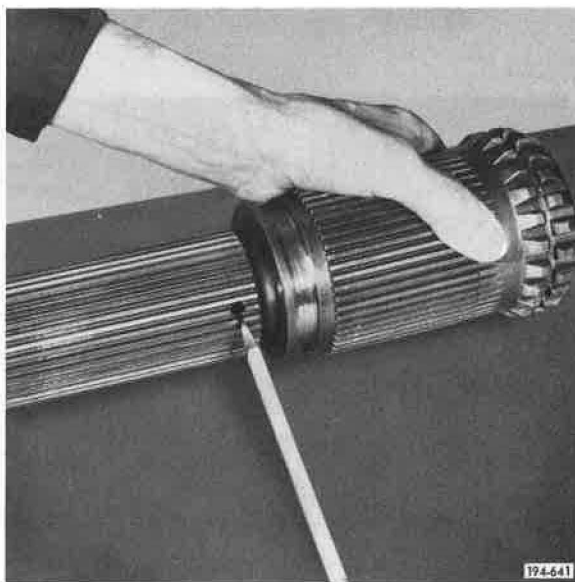

Figure 347. Installing Sliding Clutch
6. Install second/third speed sliding clutch onto main box mainshaft. See Figure 347.
Figure 347 shows non-current production mainshaft, with the pencil pointing to an oil hole. Current production no longer uses oil passages in the mainshaft. (TRTXL1070 serial number 903151 and later.)